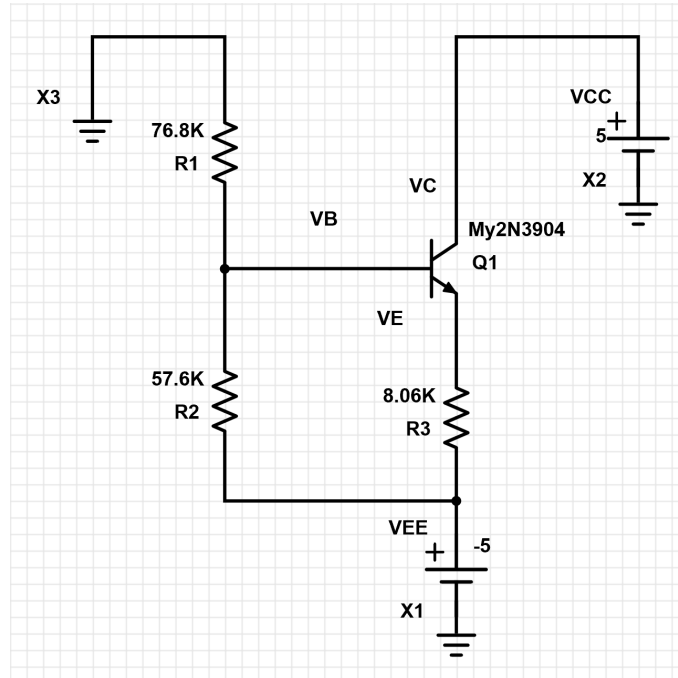
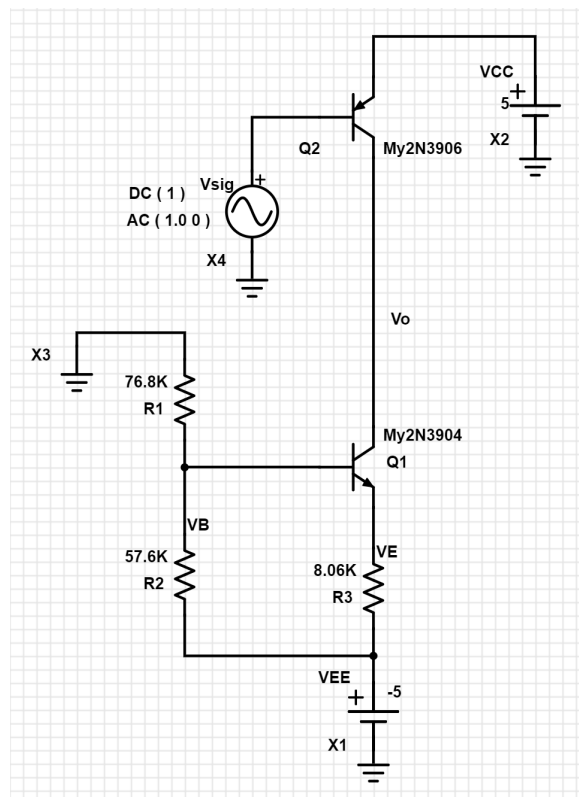
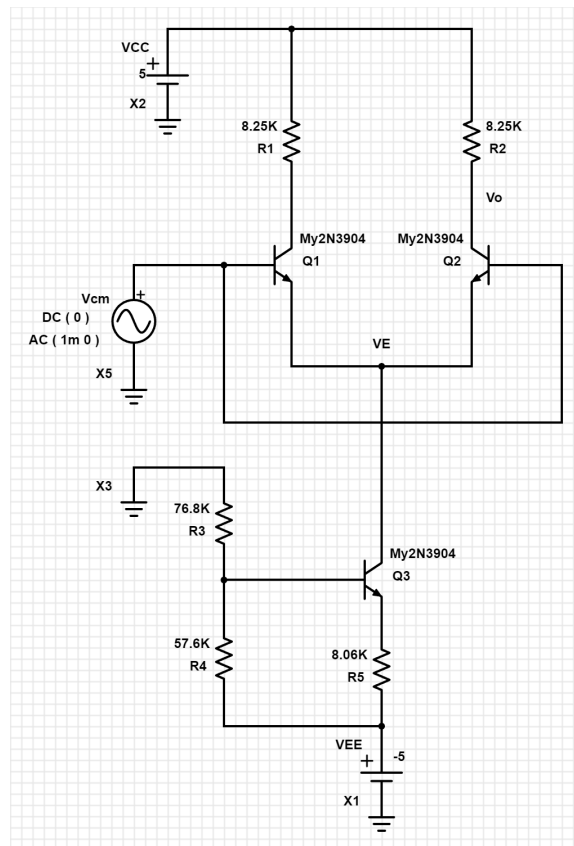

Fig. 1 The schematic diagram for the constant current sink
Fig. 2 Schematic diagram of the common emitter (CE) amplifier
Fig. 4 Schematic diagram of the differential amplifier for common-mode analysis
- 1.1 To characterize the output resistance of a current sink, construct the current sink in PartSim (LTspice or PSpice) with resistance values and supply voltages, as shown in Fig. 1.
- 1.4 Construct the CE amplifier, as shown in Fig. 2, using a PNP-BJT 2N3906 and the current sink we characterized in Fig. 1. Here, V_{sig} provides the required DC bias for Q_2 and the AC signal applied to the CE amplifier.
- 1.9 Based on Fig. 1, construct the measurement setup for the constant current sink. Use **Wavegen 1 (W1)** for VCC and V- for VEE. Connect Scope **Ch. 1 Positive (1+)** to V_B (the base of Q_1) and Scope Ch. 2 Positive (2+) to V_E (the emitter of Q_1). Connect GNDV+, GNDV-, Scope Ch. 1 Negative (1-), and Scope Ch. 2 Negative (2-) to a common ground
- 1.14 Based on Fig. 2, construct the measurement setup for the common-emitter (CE) amplifier. Use $V_+ = 5V$ for V_{CC} , $V_- = -5V$ for V_{EE} , and Wavegen 1 (W1) for V_{sig} . Connect GNDV+, GNDV-, and GNDW1 to a common ground line.
- 2.1 As shown in Fig. 4, construct the differential amplifier using two NPN-BJT 2N3904, two 8.25 k Ω resistors, and the current sink characterized in Fig. 1. We first analyze its characteristics for DC common-mode signal V_{CM} , followed by the AC common-mode signal v_{cm} . Here the source V_{cm} in Fig. 4 provides both V_{CM} and v_{cm} to the differential amplifier.
- 2.4 Based on Fig. 4, construct the measurement setup for the differential amplifier. Use $V_+ = 5V$ for V_{CC} , $V_- = -5V$ for V_{EE} , and Wavegen 1 (W1) for V_{cm} . Connect GNDV+, GNDV-, and GNDW1 to a common ground line.